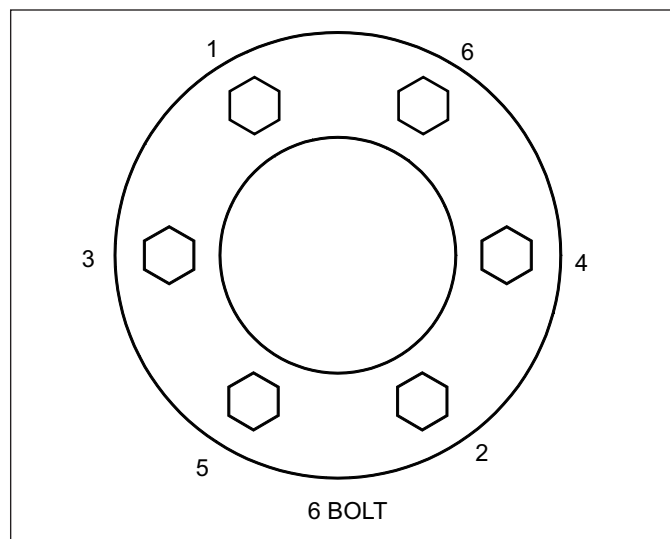

Figure 2-12: Tightening Sequence
- Install a Tire and Wheel Assembly onto each Hub with 1/2-20 x 1 Wheel Bolts and tighten Wheel Bolts to 50 Ft-Lbs using the shown tightening sequence. **See Figures 2-12 and 2-13.** Then tighten to a full torque